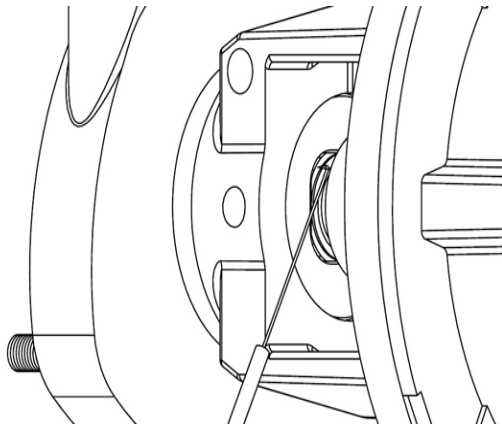

Figure 6
8. Push the stationary seal out from the back of the pump using an o-ring pick, your fingers, or both. Pushing on opposite sides of the shaft with constant light pressure, make sure to push outside of the rear seal face. See Figure 6.